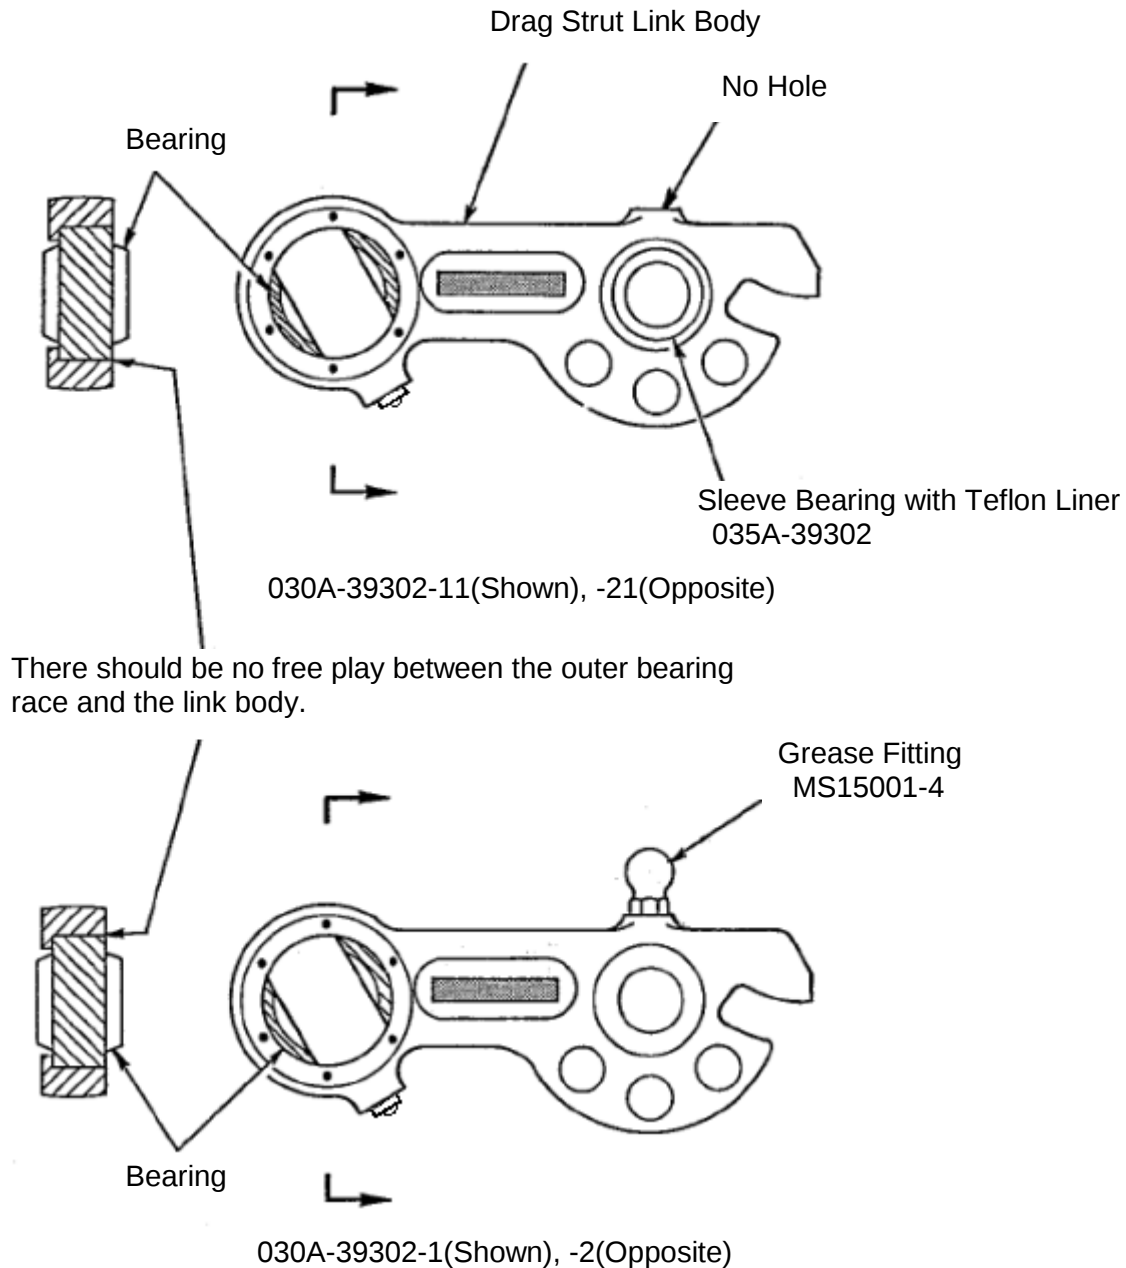

Figure 9: Drag Strut Link Free Play
- (3) Visually inspect Grease Fitting above Down Lock area of Drag Strut Link for Grease Fitting. (Figure 9)
- (a) If there is a threaded hole and no Grease Fitting is installed, the condition is abnormal. Proceed to Paragraph 3.1 (4).
- (b) If the Grease Fitting (MS15001-4) is installed or there is no threaded hole for Grease Fitting, the condition is normal. Proceed to Paragraph 3.1 (5).
- (4) Inspect the inner surface of Drag Strut attaching hole for nicks, scratches, rust, or corrosion.
- (b) If none of these conditions are found, install Grease fitting (MS15001-4) and proceed to Paragraph 3.1 (5).
- (5) Inspect Drag Strut Links for free play between the link body and outer bearing race. There should be no free play. (Figure 9)